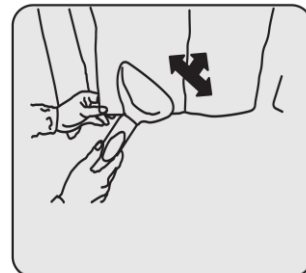

Fig.10
- When ironing the bottom of the cloth, please grasp both sides of the cloth for tightening, and then steam from left to right, up and down. Please aware of the hot steam from nozzle. (See Fig.10)